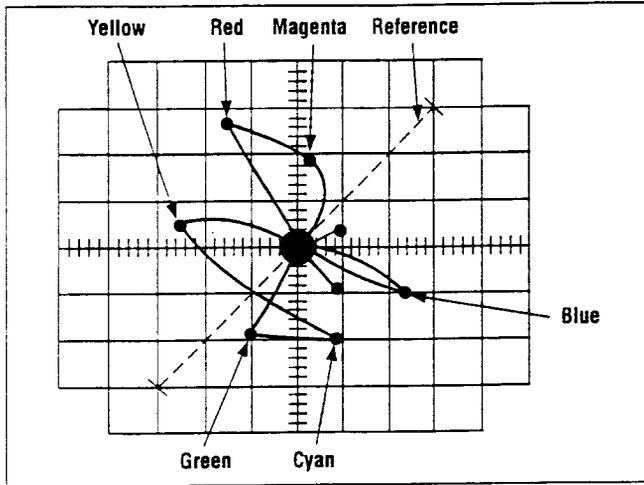

Fig. 7. Typical Vectorscope Display of Demodulated Color Bars Pattern Viewed on Conventional Oscilloscope.
If an NTSC vectorscope is not available, the demodulated color signals from the red and blue guns can be used as the X and Y inputs to a good laboratory oscilloscope (such as the **B+K Precision Model 2120**). The resulting display is a vectorscope pattern as shown in Fig. 7. The oscilloscope should be set up for vectorscope operation as follows:
6. A display similar to that shown in Fig. 7 should be obtained. However, several factors may affect the display as follows:
- a. The HUE control of the TV under test will rotate the display. The HUE control may be adjusted to obtain the display nearest to that shown in Fig. 7. Starting from a centered position, the HUE control can typically rotate the display $\pm 30^\circ$.